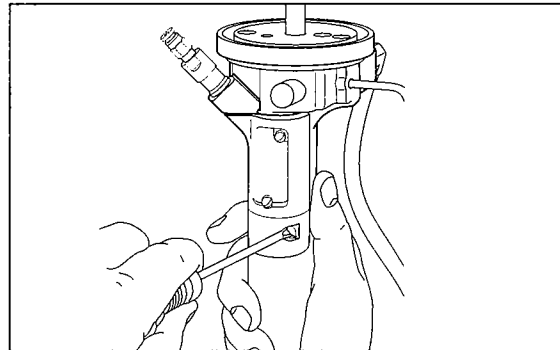

Figure 4
5. Remove Passage Mounting Screw (Item 51) and Existing Passage Assembly (Items 5, 30, 31, 34, 35, 50, 60A & 60B). (See Figure 4)